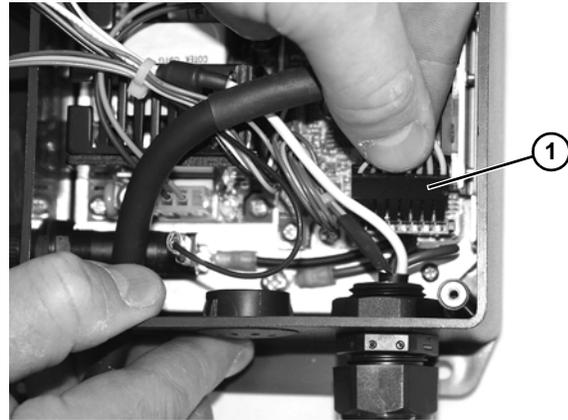

Figure 11
5. Remove wiring connector (Figure 11, item 1) from main board.